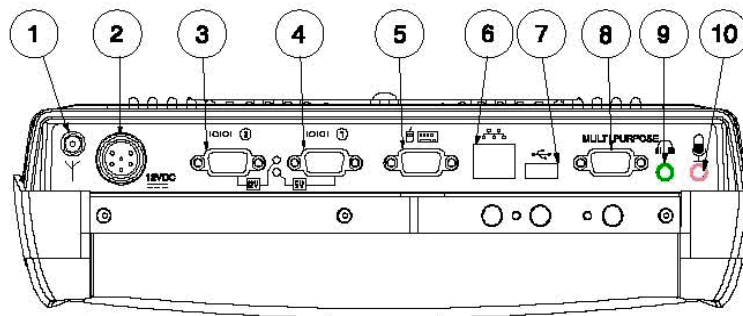

Figure 7 Ports for connecting peripherals
Connect keyboards and pointing devices to the computer's keyboard port; see Figure 7, pos. 5. Note that some require an adapter and others must be configured. Follow the instructions for the type of keyboard that you have.
- 1 Connect the PS/2 adapter (included) to the keyboard port on the computer; see Figure 7, position #5.
- COM port; see Figure 7, pos. 3 or 4
- USB port; see Figure 7, pos. 7
- 1 Connect the barcode reader to the COM port; see Figure 7, position #3 or #4.
- 1 Connect the GPS or GSM/GPRS product to the COM port; see Figure 7, position #3 or #4.